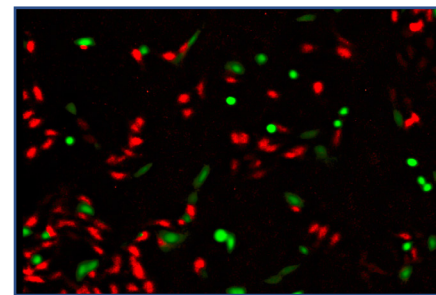

Fig. 3. Co-culture of 3T3 cells stained with CellTracker Green (green) and C6 cells stained with CellTracker Orange (red).
- + Cellular processes (Fig. 3)